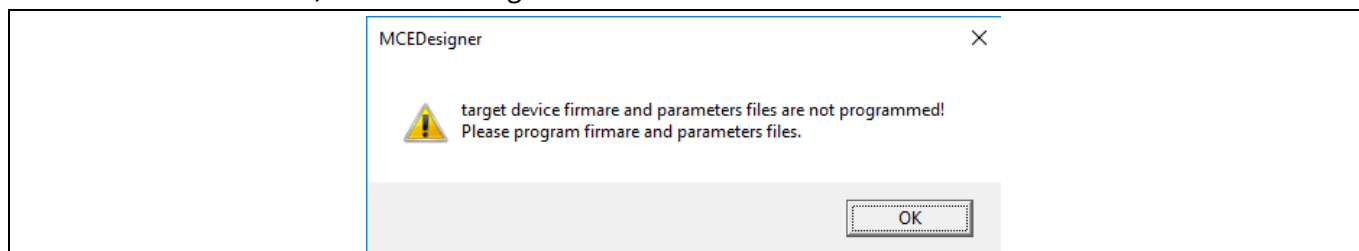

Figure 5 MCEDesigner warning message
- (In case blank IC) If the firmware has been erased from the IMD111T, the following warning message will pop up “Target device firmware and parameters file are not programmed! Please program firmware and parameters file” as Figure 5. Then you can program the firmware and parameters as described in the Step 5. If it is not the blank IC, no such message will be indicated.